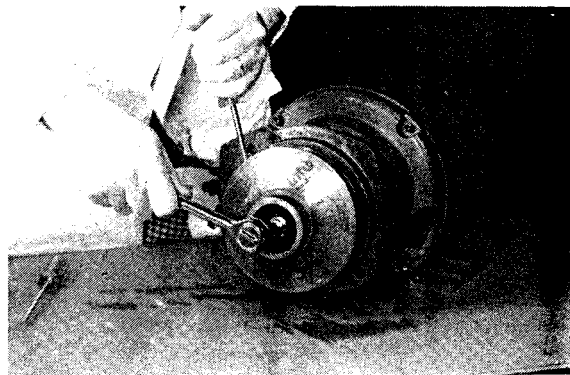

Figure 1
6. Insert a screwdriver in impeller waterway passage and remove impeller bolt with a socket wrench (Fig. 1)